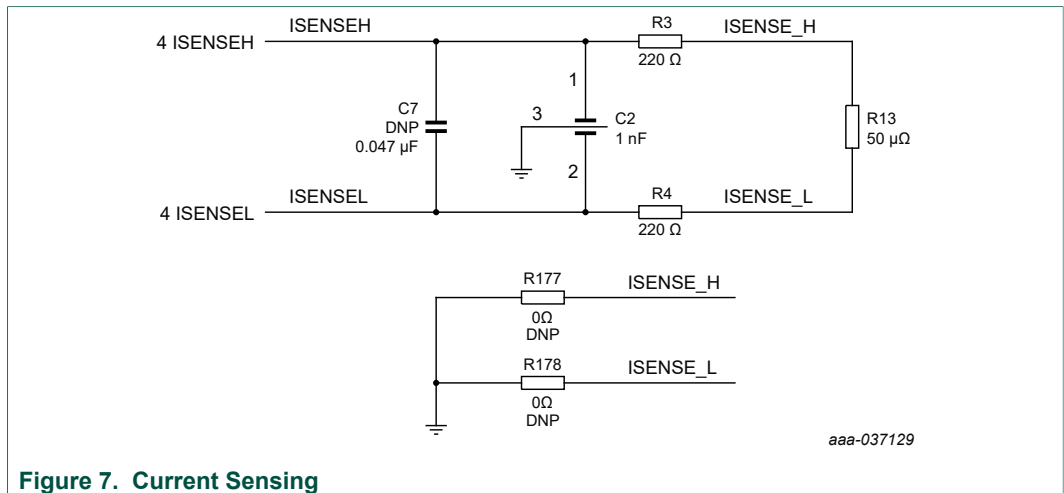

Figure 7. Current Sensing
4. R177 or R178 can be placed as shown in Figure 7 to measure the HV-load current or the HV load current + the RD9Z1-638BJBEVM board current.